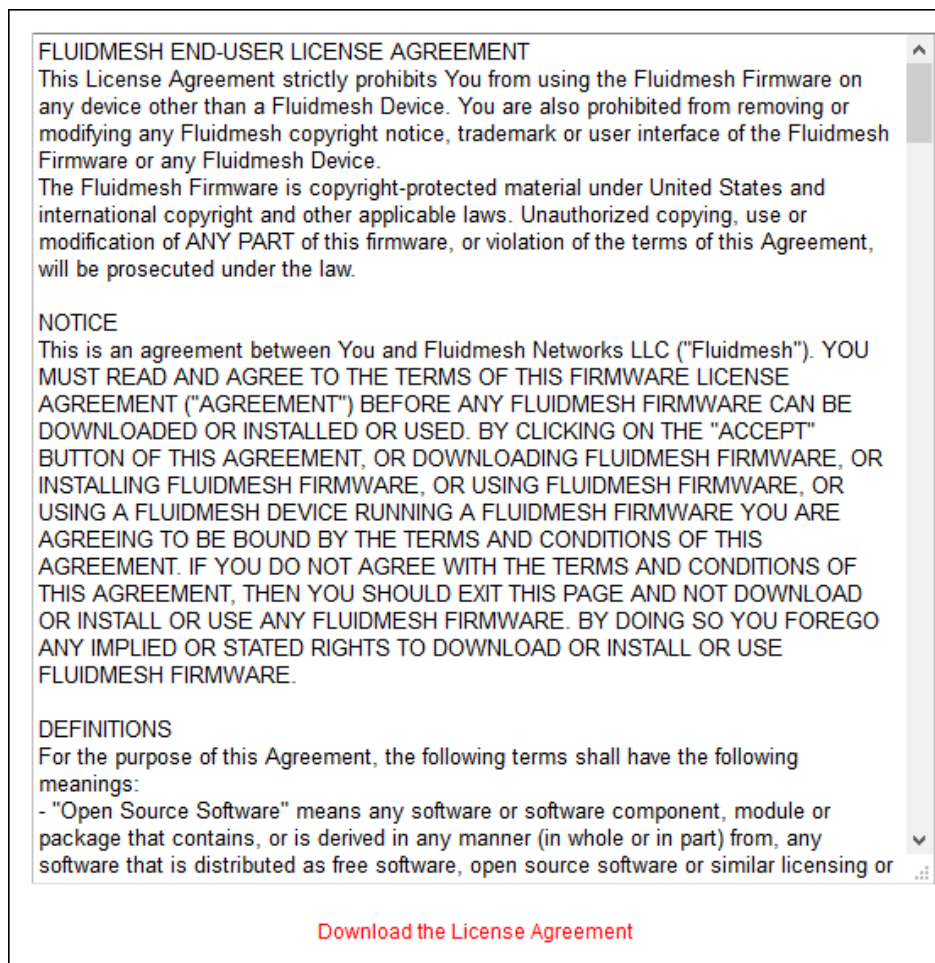

Figure 67. Configurator GUI (End-user license agreement)
- The license agreement dialog will be shown (Figure 67 \(page 158\)).